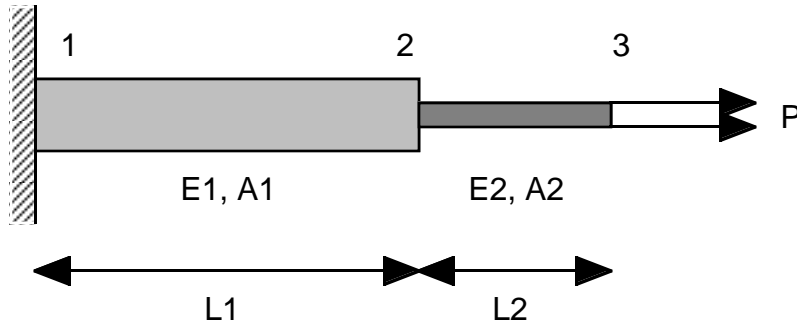

Figure 1 Two Bar Element Model (Axially Loaded)
4. For the finite element model consisting of two bar elements axially loaded as shown in Fig. 1. Let Young's modulus be E_1 and E_2 , let the length of the elements be L_1 and L_2 , and let the cross sectional area of the elements be A_1 and A_2 , respectively. (20 points)